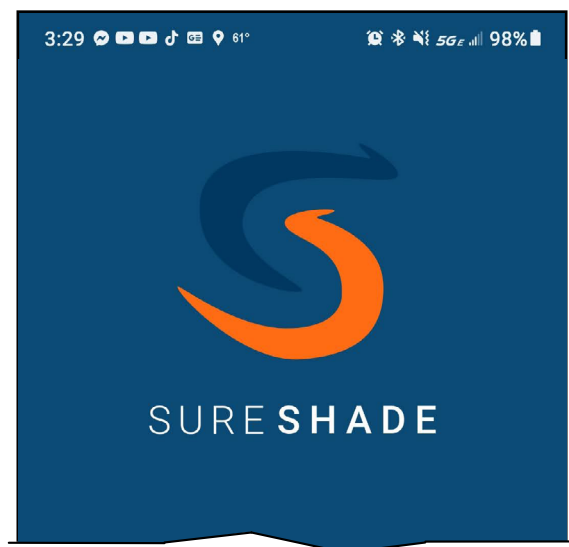

Fig.64
A. Tap Install button (**Fig.63A**) and open the app (**Fig.64**).